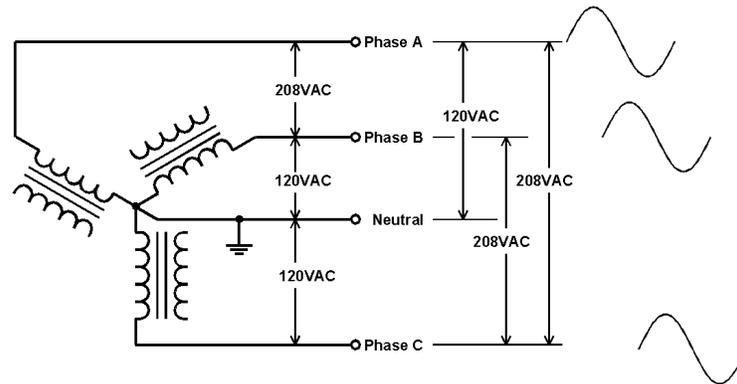
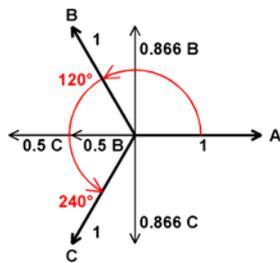
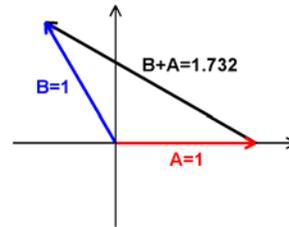

Figure 3a – Three Phase 208V/120V Power System (The Americas)
Figure 4a – 3-Phase Voltages
Figure 4b – Phase to Phase Voltage
Large facilities are connected to a three-phase ***service***, as shown in Figure 3a or 3b.
Three phase power is required to run most large motors. Figures 3a and 3b show that the voltage waveforms for the three phases are displaced from each other by 120 degrees. Figure 4a shows these voltages as “phasors,” a mathematical concept developed to analyze and describe how voltages *of the same frequency* but out of phase with each other combine with each other. We can think of these phasors as vectors that rotate around an origin, with the vertical height of the vector tracing a sine wave as it rotates.
We can “stop” these phasors at any point in time and analyze how they combine. Figure 4a shows them at the point where the voltage on phase A happens to be at 0 degrees, but we could have stopped them at any other point on the cycle. Figure 4b shows that when any two windings are in series (that is, we measure phase-to-phase) the voltage is 1.732 x the voltage of any one phase. Thus, a 3-phase system that has 120 VAC between each leg and neutral will have $1.732 \times 120V = 208VAC$ from phase to phase. Why not 240 volts (or zero)? Because the two voltages are displaced by 120 degrees, not 180 degrees as in the case of a single phase (center-tapped) system. The constant 1.732 results from the 120 degree relationship between the phases. It applies to the ratio between single-phase and three-phase power systems, no matter what the voltage.
- 120/208V and 230/400V wye (Figure 3a, 3b)